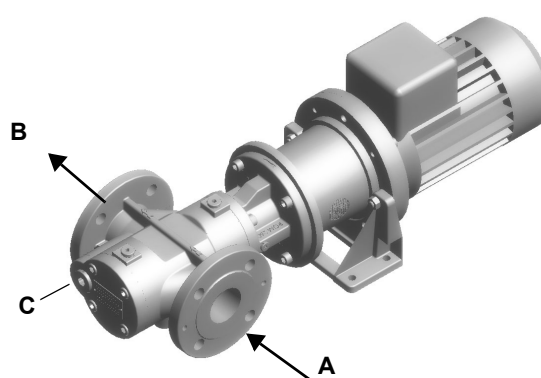

Fig. 4 - Kral
- Pressurised boilers with flame reversal: in this case the blast tube must penetrate **Dm** 50 ÷ 100 mm into combustion chamber in respect to the tube bundle plate.(Fig. 4)